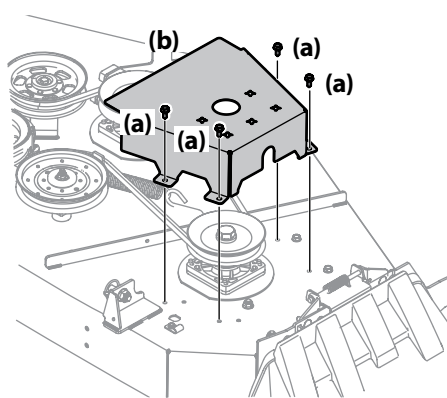

Figure 4-14
2. Remove the hex washer screws (a) securing the belt covers (b) to the deck. See Figure 4-14.
3. Remove the two idler pulleys (a & b) by removing the hex screws (c) and flange lock nuts (d) that secure them to the deck and the idler arm (e). See Figure 4-14. Do not lose any of the hardware (pulley caps (f), washers, belt guards (g) (if equipped)) when removing the hex screw (c) and flange lock nut (d).
5. Install the new belt around the spindle pulleys as shown and reinstall the belt covers (b). See Figure 4-14.